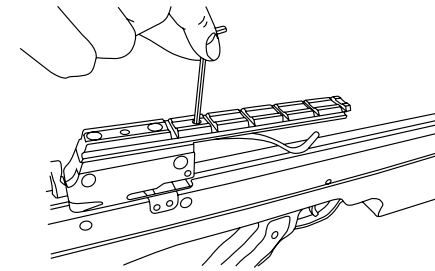

Figure 9
- 2 This adjustment needs to be made before any scope is installed. Adjust the set screw located near the front on top of the scope mount so that the crossbolt retainer will hold an crossbolt securely against the barrel when the crossbow is held vertically with the crossbolt pointing down. Don't adjust the crossbolt retainer so tight that when there is no crossbolt installed, it will rattle against the barrel creating undesired noise. The adjusting screw has a nylon patch on it so it won't vibrate loose after an adjustment is made. If the screw is adjusted too many times in and out it will wear the nylon so that it becomes ineffective as a lock and will have to be replaced, (See Figure 9).